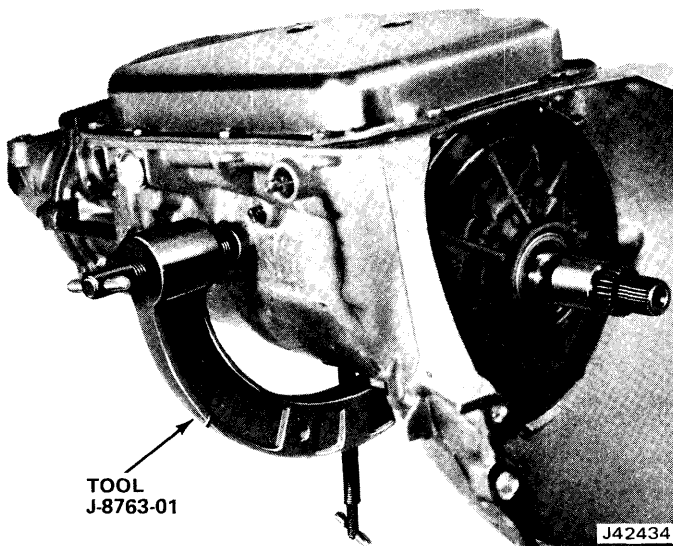

Fig. 7-5 Transmission Mounted in Holding Fixture J-8763-01
(1) Remove transfer case.
(2) Install Holding Fixture J-8763-01 on transmission case with modulator positioned on side of holding fixture nearest bench.
(3) Install fixture and transmission in Holding Tool Base J-3289-20 with oil pan facing upward (fig. 7-5).
(4) Remove modulator attaching screw and retainer.
(5) Remove modulator and O-ring seal from adapter and remove adapter.
(6) Remove modulator valve.